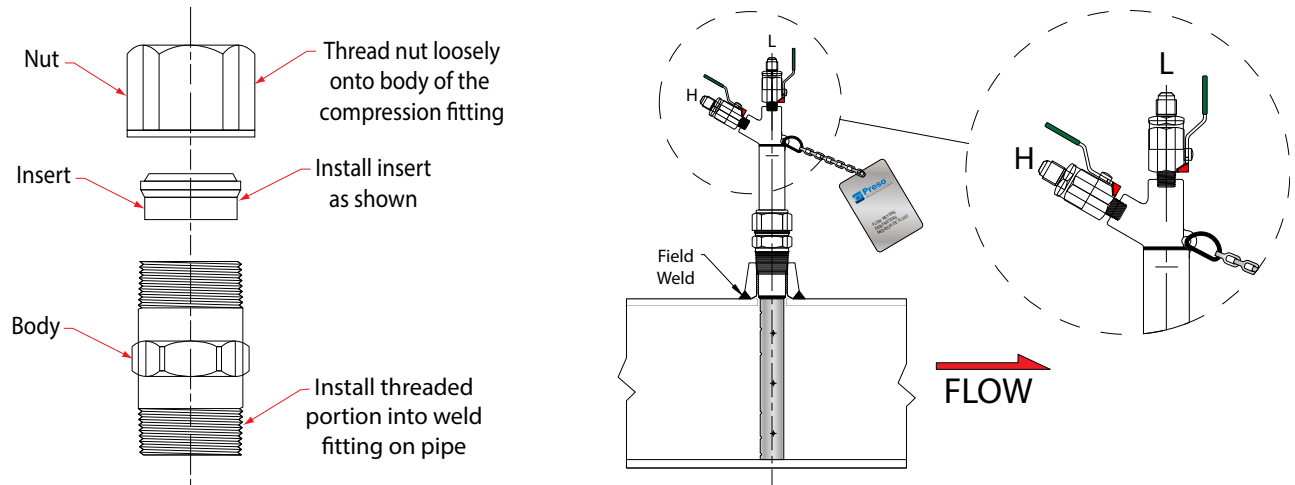

Figure 4: Single support installation
6. Assemble the supplied compression fitting as shown in Figure 4. Thread the assembled compression fitting into the thread-o-let manually. With a wrench, tighten the body of the fitting another 1-1/4 turns, being careful not to tighten the compression nut.
9. While holding the BAR Ellipse in its fully inserted position, align the arrow on the sensor head with the direction of flow. See Figure 4.